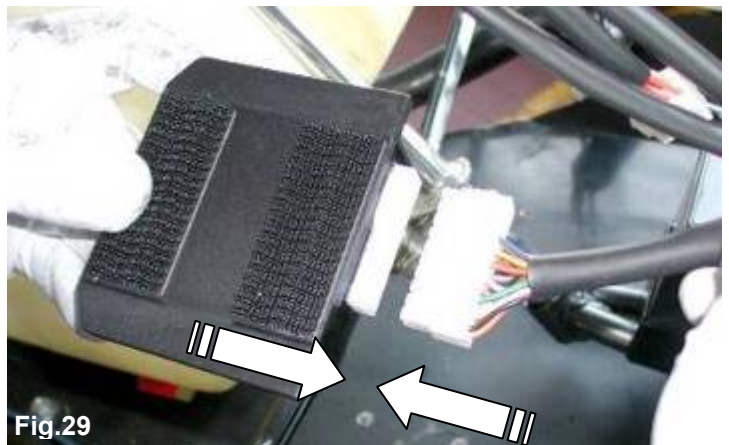

Fig.29
3.8.11 CONNECT THE ELECTRONIC BOX TO THE 20 POLE TERMINAL IN THE WIRING HARNESS (SEE FIG. 29).